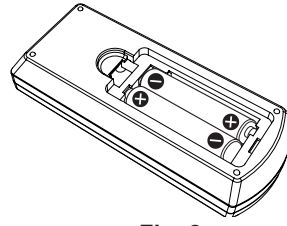

Fig. 2
- 2) Insert batteries and close the cover (Insert the "●" side first.). (Fig. 2)